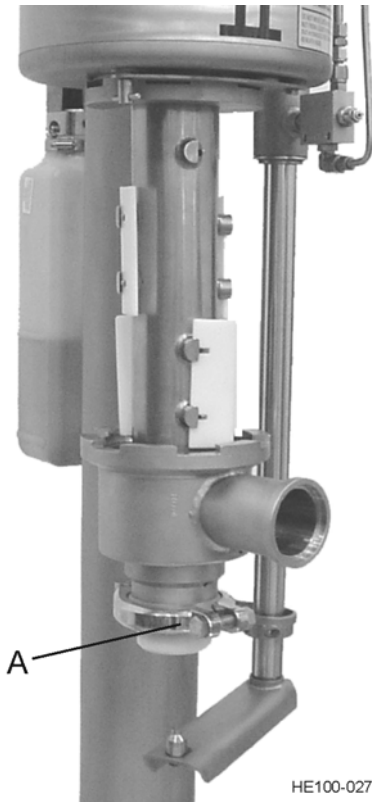

Figure 74 - Remove Head Clamp
8. Remove clamp on head. (See Figure 74, Item A) and shaft nut guard.